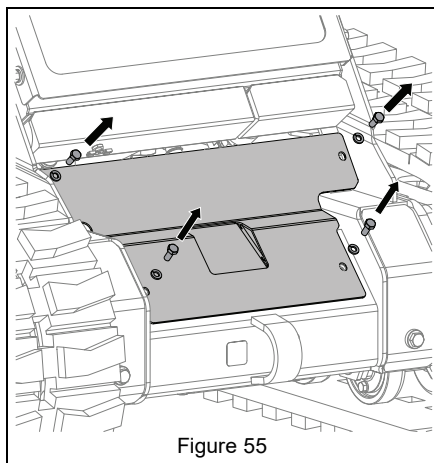

Figure 55
2. Remove battery access panel by removing four bolts and washers. Set battery access panel and hardware aside. See Figure 55.